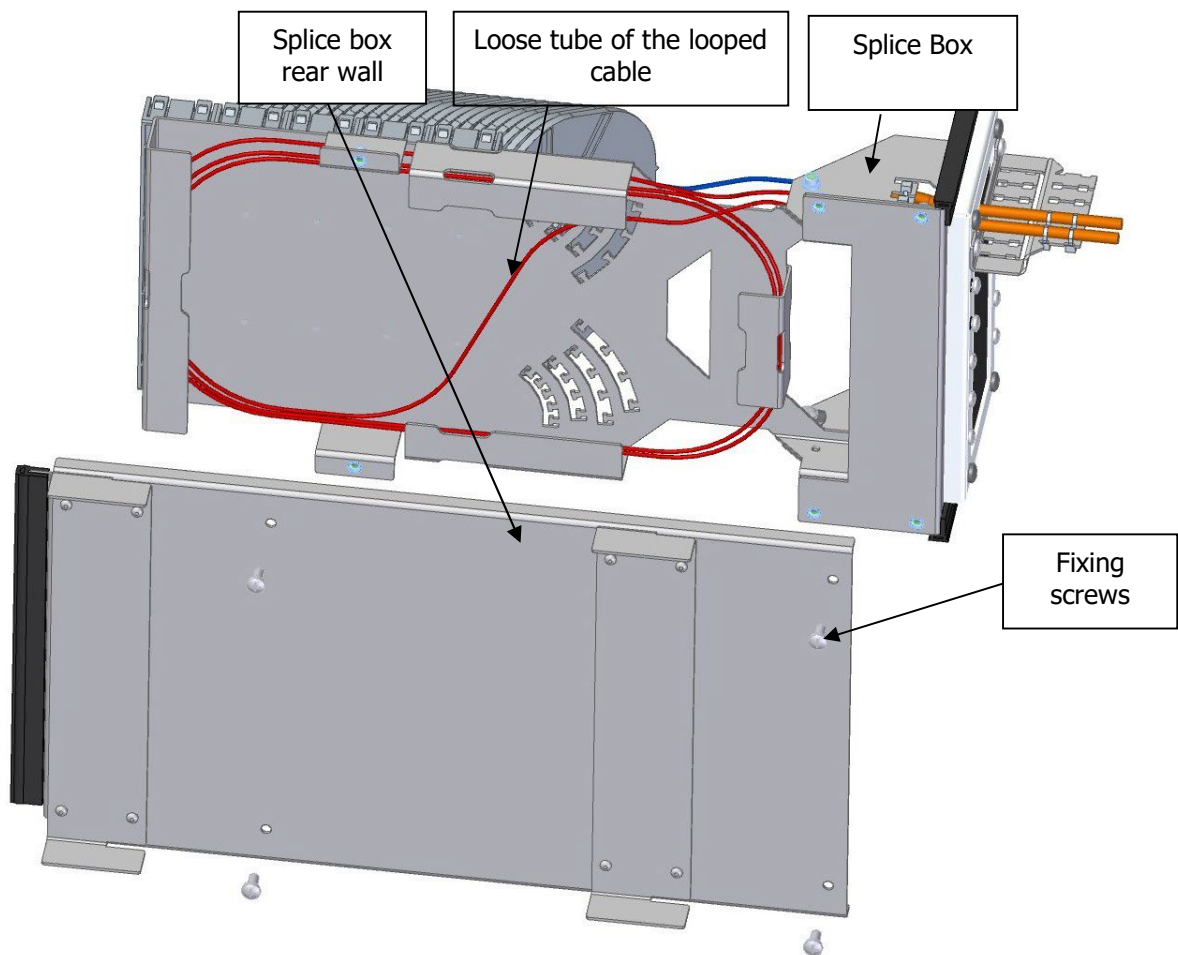

Fig.12. Feeder cable loose tube loop management
6. The proper ends of the cut feeder cable loose tubes are routed to the hinged splice trays. The uncut loose tube loops are collected in the space provided on the back of the splice box. Access to this space is obtained by unscrewing 4 mounting screws and removing the rear wall of the splice box, see Fig.12.